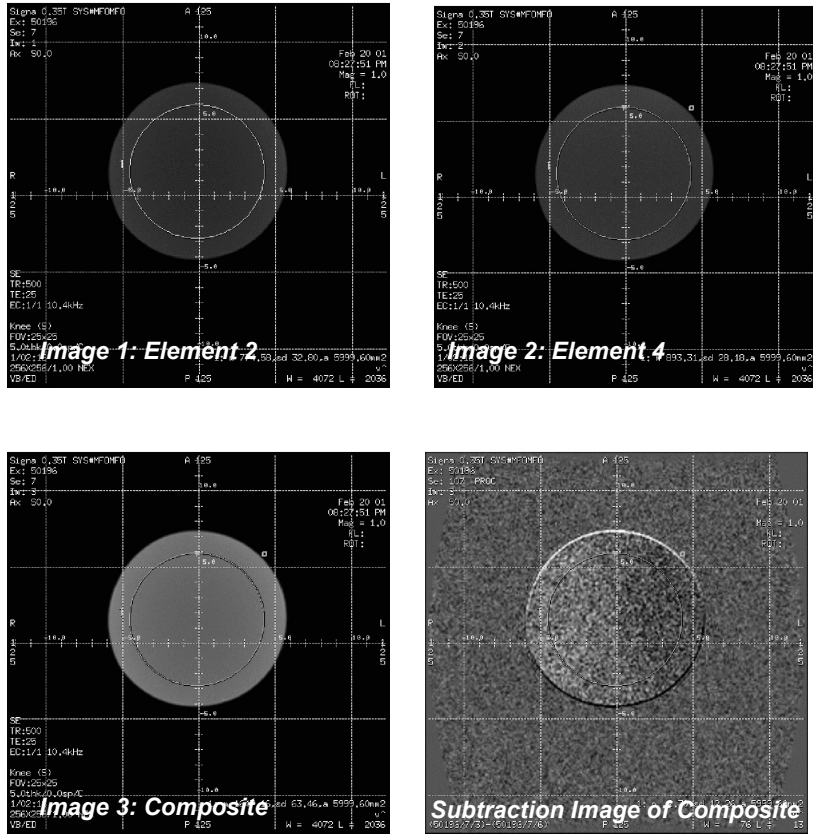

Figure 13: Knee images.
5. Refer to channel images shown in *Figures 13 and 14*.
SNR is calculated for individual elements at the slice location where signal is brightest. For the signal measurement, choose an ROI following the examples shown in *Figures 13 and 14*.